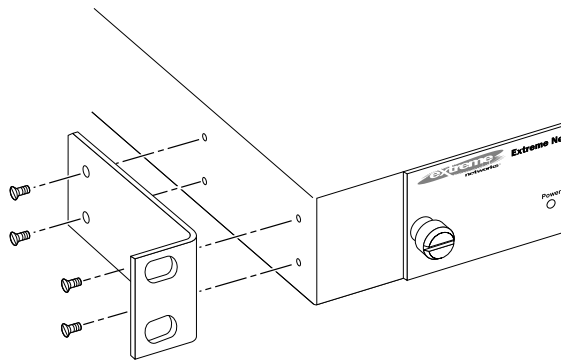

Figure 313: Attaching the Mounting Bracket
- a Place a mounting bracket over the mounting holes on one side of the EPS-T2 (see Figure 313: Attaching the Mounting Bracket on page 341).